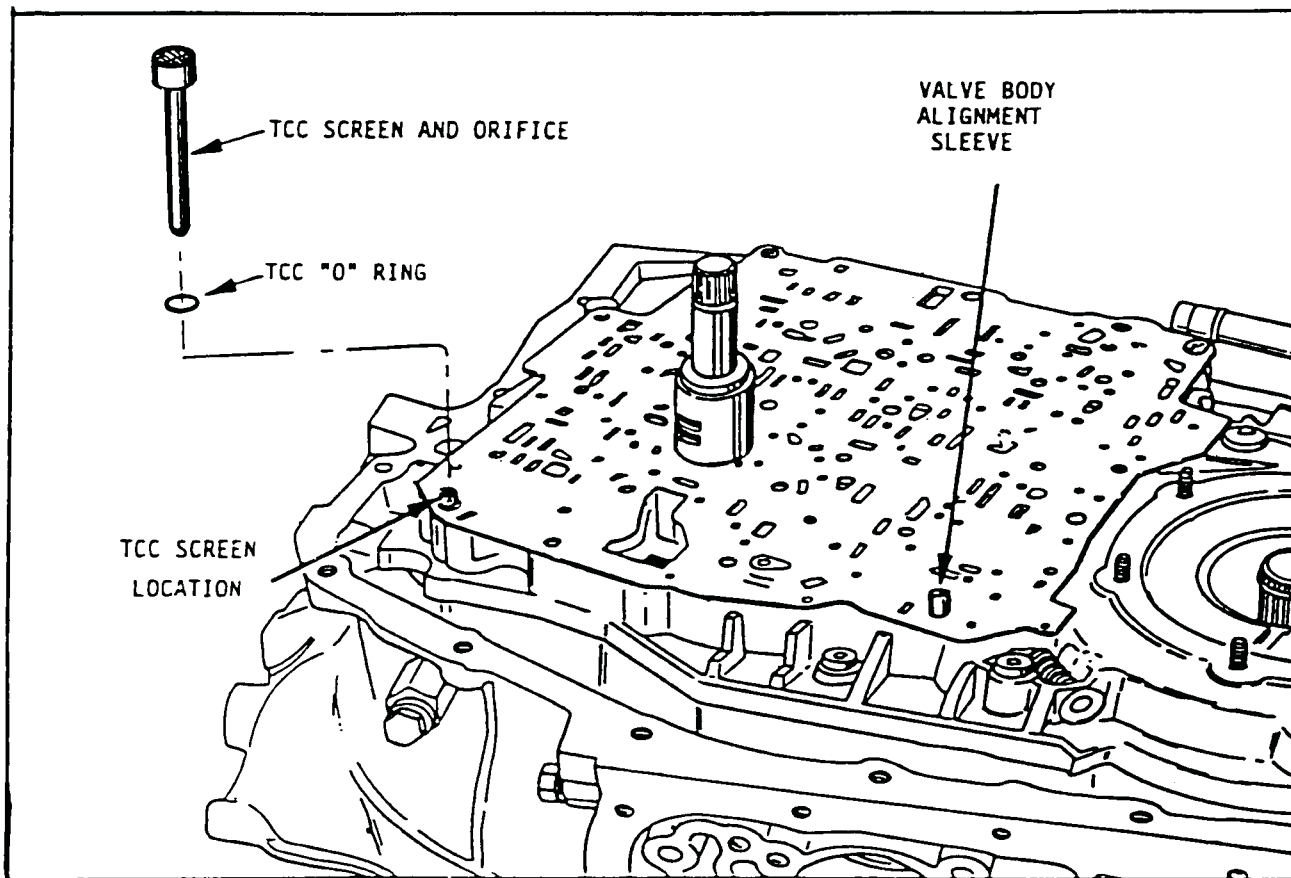

Figure 62
- CAUSE:** The cause may be a missing TCC screen and orifice (See Figure 62). If the TCC screen and orifice are left out of the 440-T4, the converter clutch will apply on the 1-2 shift because of the solenoids inability to exhaust TCC signal oil there by stroking the lock-up valve. The TCC screen and orifice must be in place, as well as the "O" ring (See Figure 62). The TCC screen "Snaps" into the spacer plate.
- CORRECTION:** Install the TCC screen and "O" ring into spacer plate in location shown in Figure 62. First install "O" ring on TCC screen and then "Snap" into place in the spacer plate. OEM part numbers as follows;